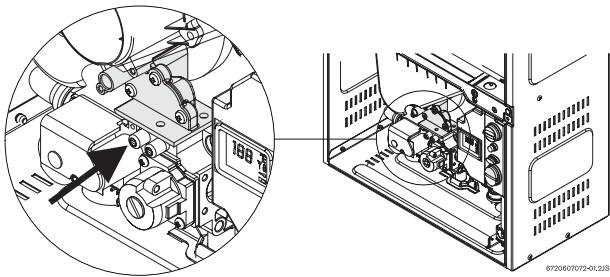

Fig. 24 Gas pressure measuring (left tapping)
- ▶ Remove front cover and locate inlet gas pressure measuring point (see Fig. 24).